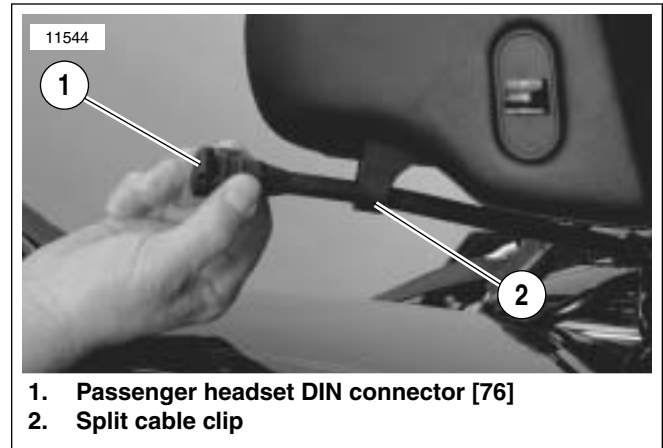

Figure 2-50. Passenger Headset Connector Removal/Installation
10. See Figure 2-50. Grasp passenger headset DIN connector (1) [76] and pull forward as shown in photo. Gently pull connector cable housing straight down to release from split cable clip (2).